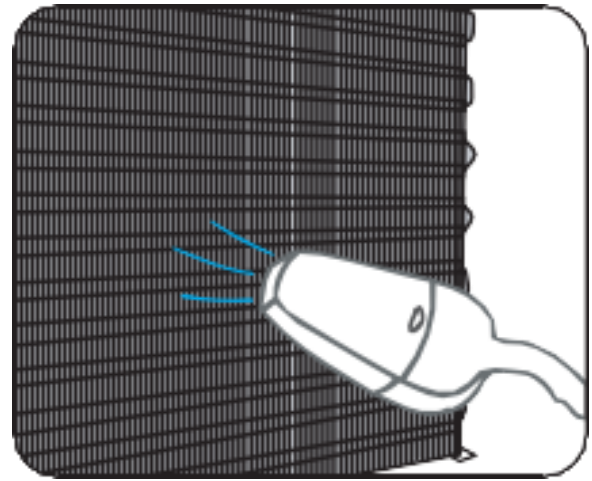

Figure 67
3. The condenser surface accumulates dust. Remove dust by using a household vacuum cleaner or hand held vacuum. Clean and dry the filter and insert it into the machine. (Figure 67)